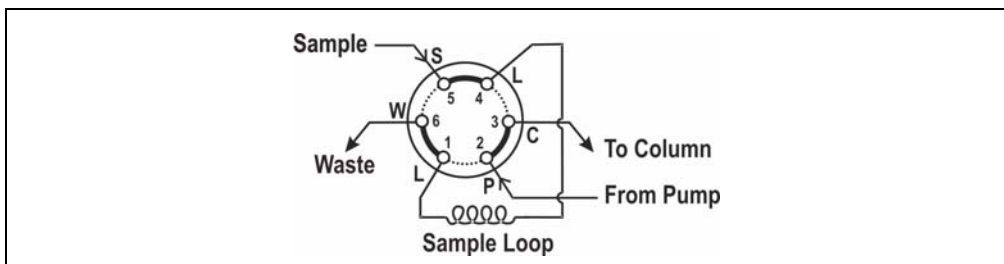

Figure B-22. Injection Valve Connections
2. Connect the outlet line from the AS40 to port S (5) of the injection valve (see Figure B-22).